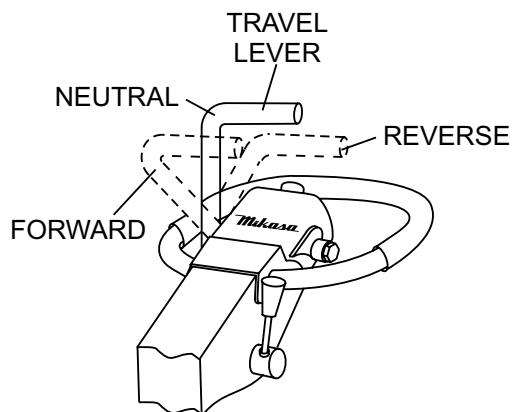

Figure 19. Travel Lever
3. To make the compactor move in the forward direction push the travel lever (Figure 19) forward.
4. To make the compactor move in the reverse direction pull the travel lever (Figure 19) backwards.